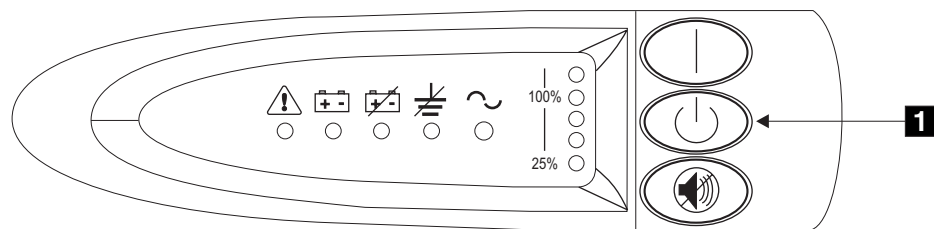

Figure 306. 2145 uninterruptible power supply front panel assembly
1. At the front of the 2145 uninterruptible power supply, press and hold the off button (1 in Figure 306) for approximately five seconds or until the long beep stops.